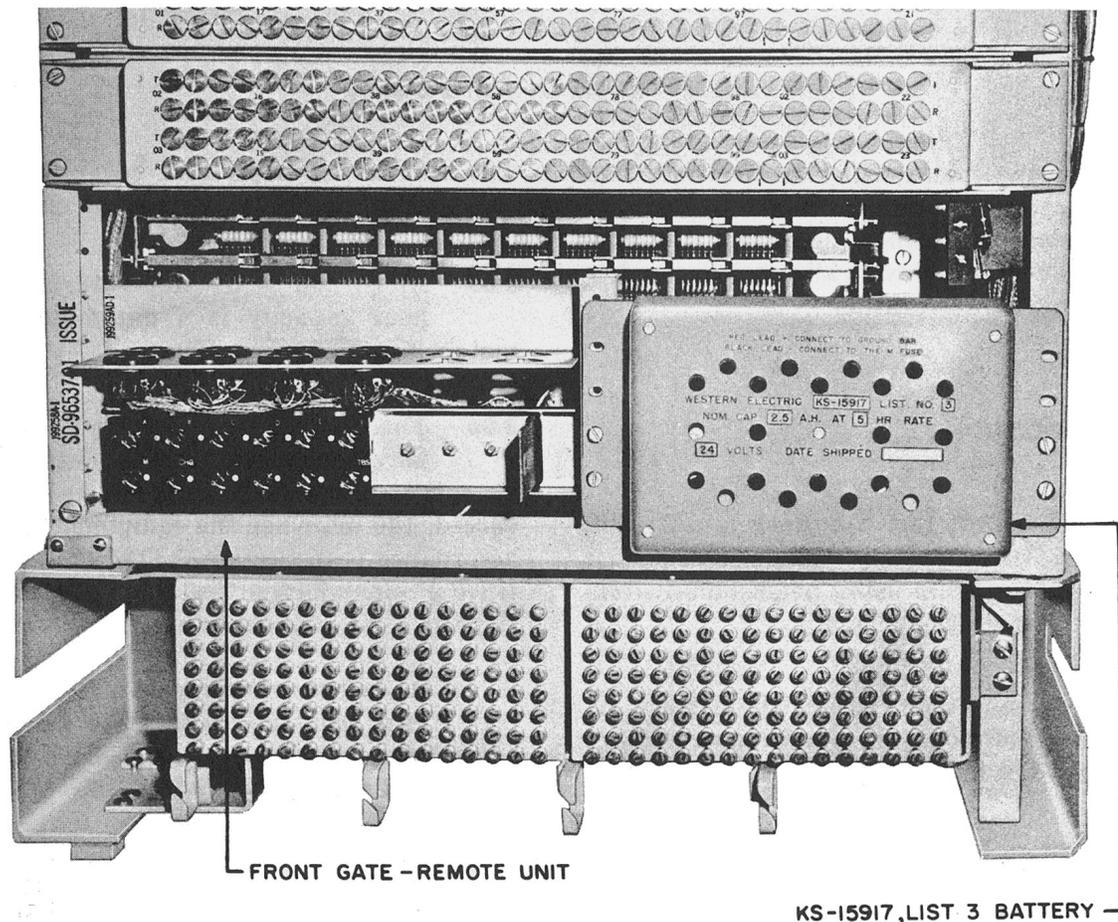

Fig. 1 - KS-15917, List 3 Battery Located in Front Gate of Remote Unit
2.02 The battery is mounted in the remote unit in the equipment rack front gate (Fig. 1). Four screws through holes in the mounting brackets fastened to the battery box provide support.